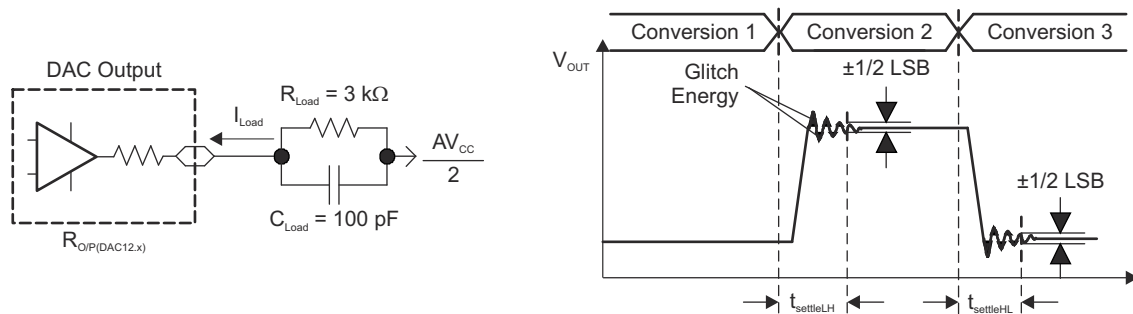
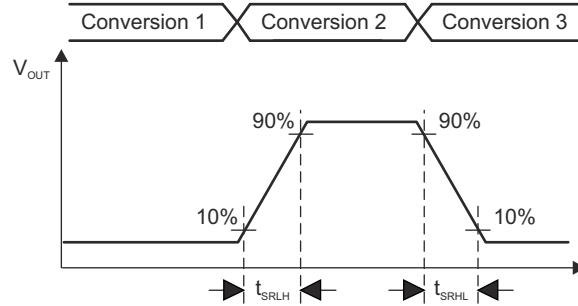

图 8-19. Settling Time and Glitch Energy Testing
图 8-20. Slew Rate Testing
V_{REF} = V_{CC}, DAC12IR = 1 (see 图 8-19 and 图 8-20), over recommended ranges of supply voltage and operating free-air temperature (unless otherwise noted)
| t _{ON} | DAC12 on time | DAC12_xDAT = 800h, Error _{V(O)} < ±0.5 LSB ⁽¹⁾ (see 图 8-19) | 2.2 V, 3 V | 60 | 120 | 15 | 30 |
- (1) R_{Load} and C_{Load} connected to AV_{SS} (not AV_{CC}/2) in 图 8-19.
- (2) Slew rate applies to output voltage steps ≥ 200 mV.